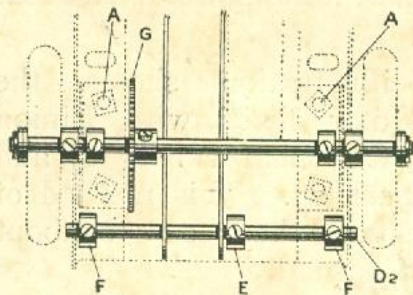

Fig. 1
the right and left sides of rear spindle (D2) to prevent it fouling the wheels (Fig. 1).
7. Take the Back Wheel Axle and fit a No. 160 Gear Wheel (G) to engage with Pinion Wheel (C) on Driving Spindle (B) (Fig. 1).